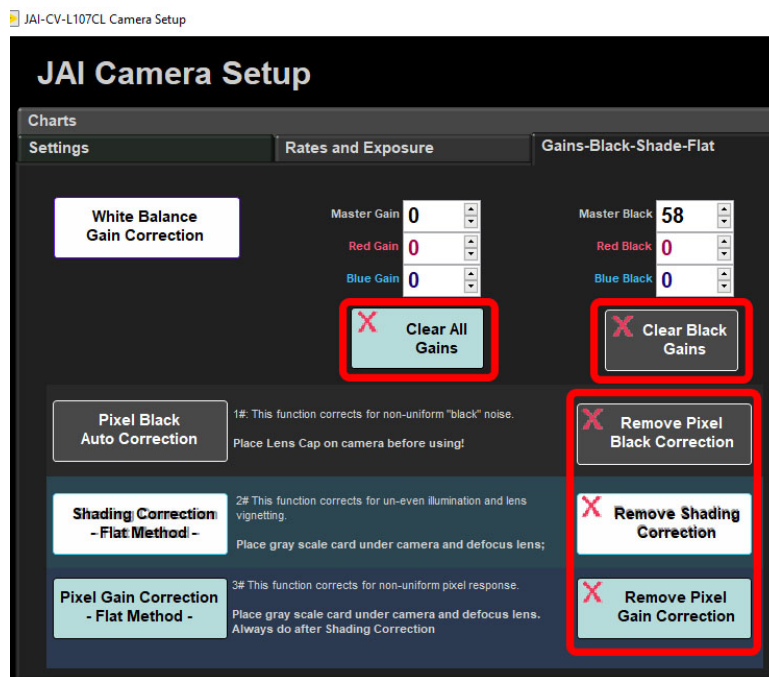

Figure 37: Remove the corrections and clear gains.
2. Click the **Clear All Gains**, **Clear Black Gains**, **Remove Pixel Black Correction**, **Remove Shading Correction**, and **Remove Pixel Gain Correction** (Figure 37). You will notice all values in the Master and Black gains go to zero.